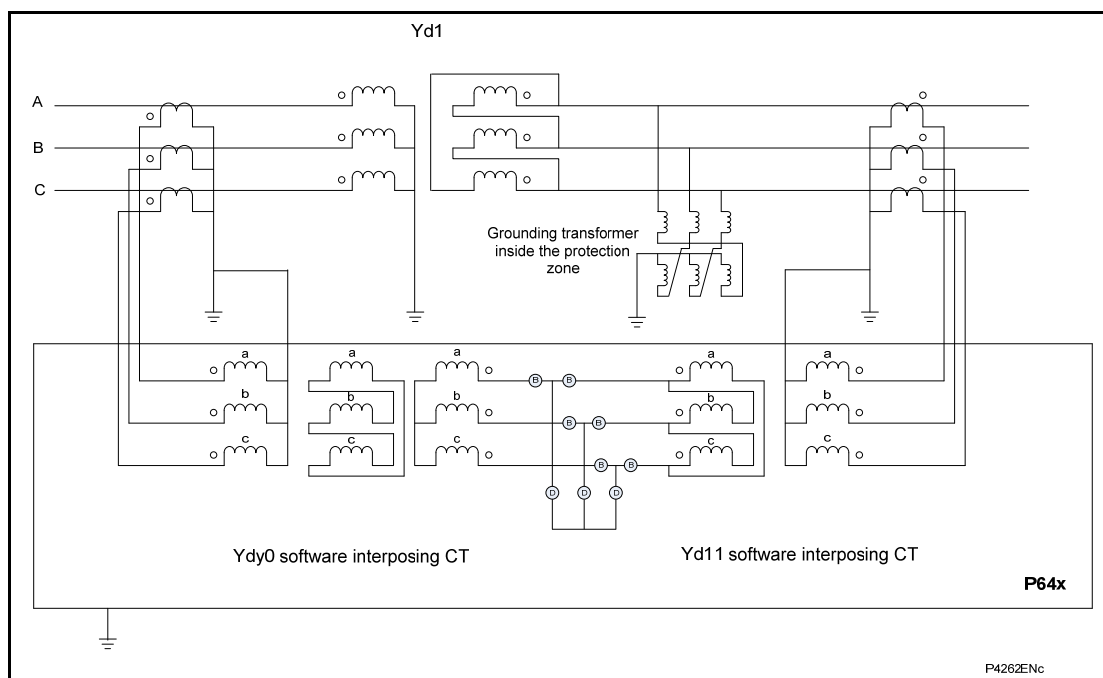

Figure 3: Software interposing CTs for a Yd1 transformer
When the P64x is configured to protect a YNd1 transformer, the software interposing CTs used by the relay to achieve vector correction are as shown in Figure 3. No vector correction is performed on the HV amplitude matched phase currents. If the relay is in simple mode, zero sequence filtering is applied when the cell [HV Grounding] under the **GROUP 1 SYSTEM CONFIG** menu heading is set to grounded. If the relay is in advanced mode, the zero sequence filtering is enabled or disabled in the cell [Zero seq filt HV] under the **GROUP 1 DIFF PROTECTION** menu heading. Therefore, on the Y high voltage side of the transformer the software interposing CT is either Yy0 (no zero sequence filtering is required) or Ydy0 (zero sequence filtering is required). The currents on the low voltage side lag by 30° the currents on the high voltage side due to the vector group (1). The relay brings the low voltage current in phase with the high voltage current by using a Yd11 software interposing CT on the low voltage side.